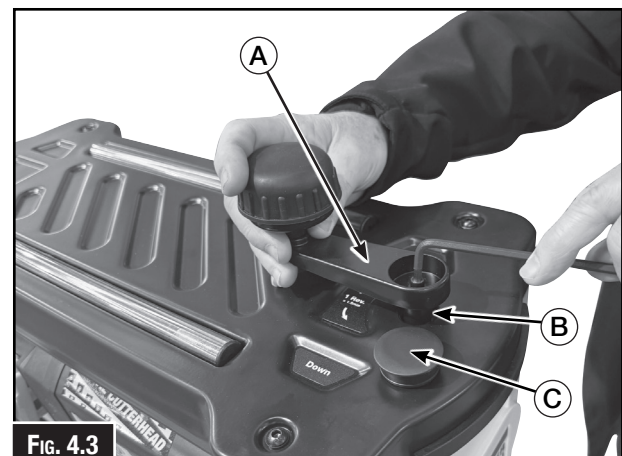

FIG. 4.3
Attach the depth adjustment handle (A) to the shaft (B) and fasten in place with the Hex Socket Head screw. Tighten screw using hex wrench, then lastly insert the rubber cap. (Fig. 4.3)